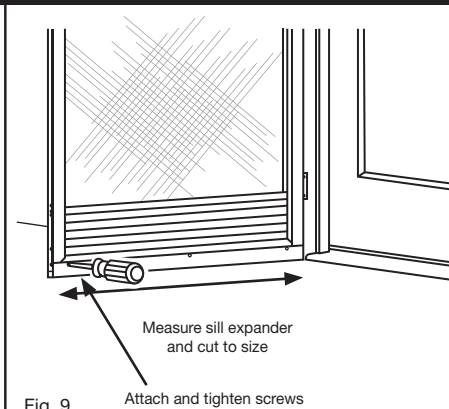

Fig. 9
Temporarily tape sill channel expander in place with masking tape. Mark and pre-drill (3) sill channel expander attachment holes as indicated on interior side using 1/8" drill bit. Secure with #8 x 3/8" screws provided (Fig. 9). Do not over tighten.